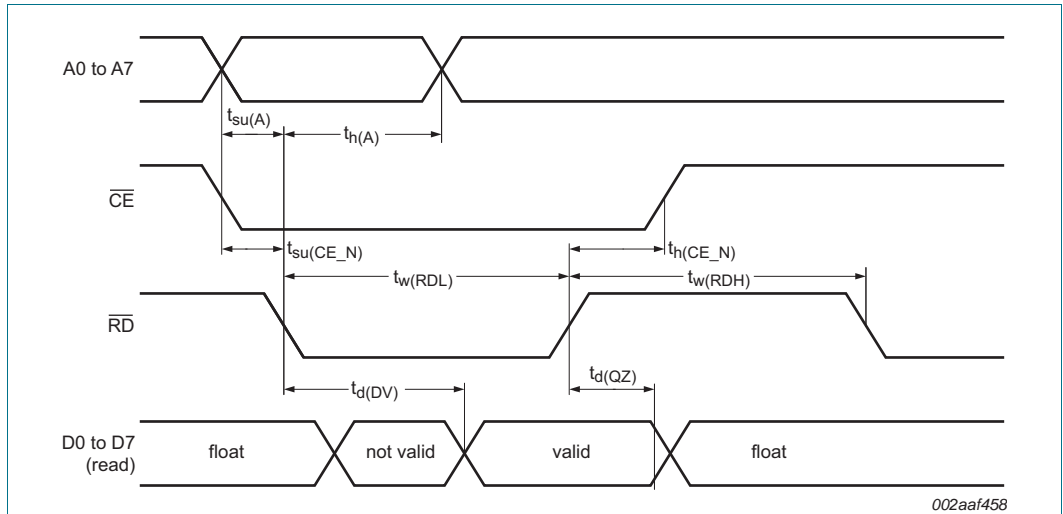
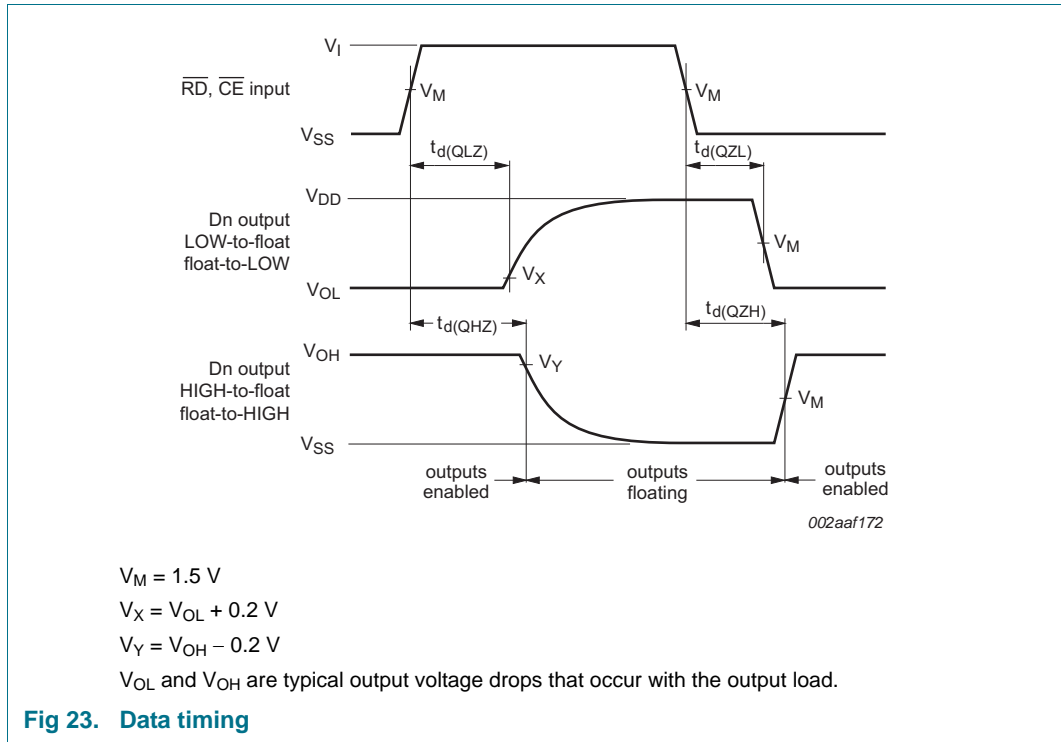

Fig 21. Bus timing (read cycle)
Fig 23. Data timing
Bus timing (see Figure 21 and Figure 23)
- [2] All voltage measurements are referenced to ground (V_{SS}). For testing, all inputs swing between 0 V and 3.0 V with a transition time of 5 ns maximum. All time measurements are referenced at input voltages of 1.5 V and output voltages shown in Figure 21 and Figure 23.